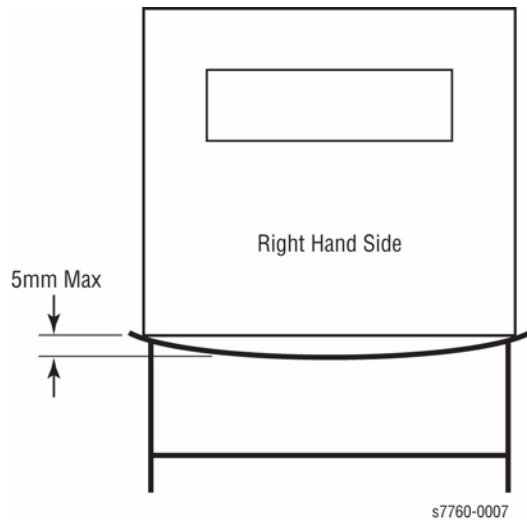

Figure 4 Mounting Surface Flatness
2. Mounting surface flatness must be within the range shown in Figure 4.